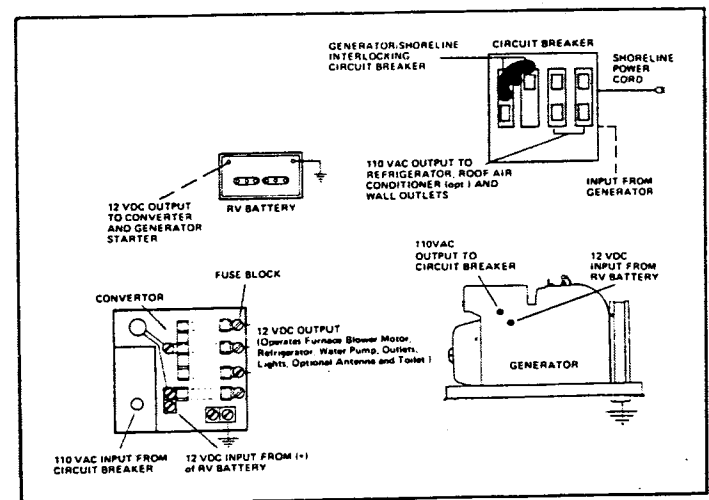

FIG. 18
**GENERATOR (OPTIONAL-QUINSTAR)** — Follow the Generator Instructions outlined in the APPLIANCES & ACCESSORIES section. The generator/shoreline interconnecting circuit breakers must be switched to: Generator "On" and Shoreline "Off" (FIG. 18).
**ELECTRICITY** — Flip the generator/shore line interlocking circuit breakers to the "Generator On" position (FIG. 18). This will automatically turn off the shore-line breaker.